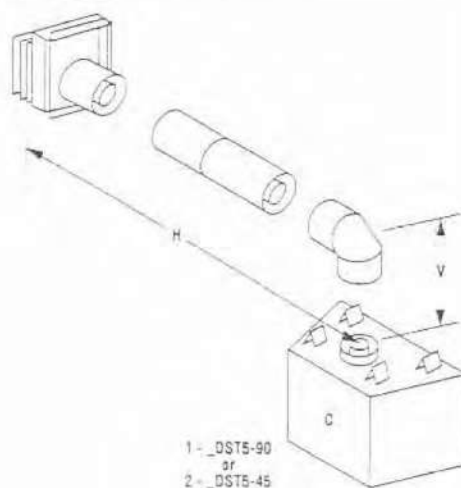

Figure 24 (90° Offsets Shown)
Figures 24, 25 and 26 and the Horizontal Vent Table illustrate the various horizontal venting configurations that are possible for use with these top vent appliances. The maximum horizontal distance for the _DVT6-C and _DVT6-R systems is 11 ½' (3.5 m). Figures 24 and 25 along with the Horizontal Vent Table identify: (C) horizontal system employing one (1) 90° elbow and (D) horizontal system employing two (2) 90° elbows. The Horizontal Vent Table summarizes each system's minimum and maximum vertical and horizontal values that can be used to design and install the vent components in a variety of applications. Both of these horizontal vent systems terminate through an outside wall. Building Codes limit or prohibit terminating in specific areas. Refer to Figure 9 for location guidelines.